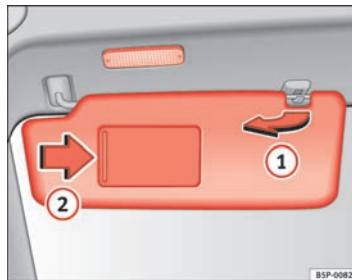

Fig. 83 Sun visor on the driver side
The sun visors for the driver and the front passenger can be pulled out of their mountings in the centre of the vehicle and turned towards the doors ⇒ fig. 83 ①